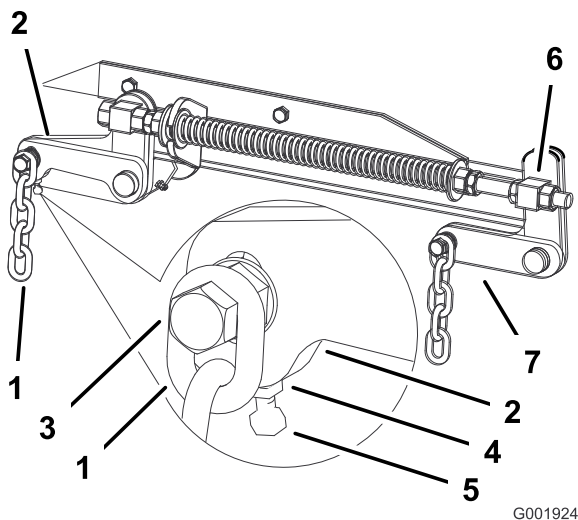

Figure 56
7. If the measurements at positions **B** or **C** are not correct, loosen the bolt attaching the rear chain to the rear support arm (Figure 56).
8. Loosen the jam nut under the rear support arm and adjust the adjustment bolt to get a measurement of 3-1/8 to 3-1/4 inches (Figure 56).
7. Loosen the front swivel jam nuts, at the front of the right and left swivels, approximately a 1/2 inch (13 mm) (Figure 56).
8. Adjust the lift nuts on both the left and the right side of the machine to achieve 1/4 to 3/8 inch (6 to 10 mm) lower in front at **A** than in the rear at **B** (Figure 56).